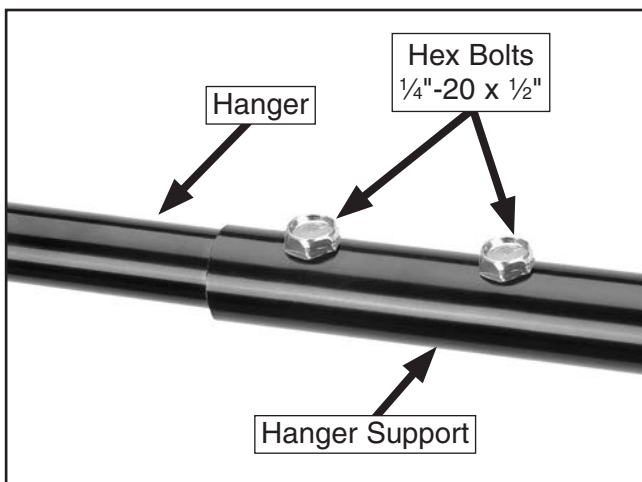

Figure 13. Hanger attached to hanger support (G0671/G0672 shown).
8. Secure the hanger into the hanger support with one (Model G0673) or two (Model G0671/G0672) 1/4"-20 x 1/2" hex bolts (see **Figure 13**).